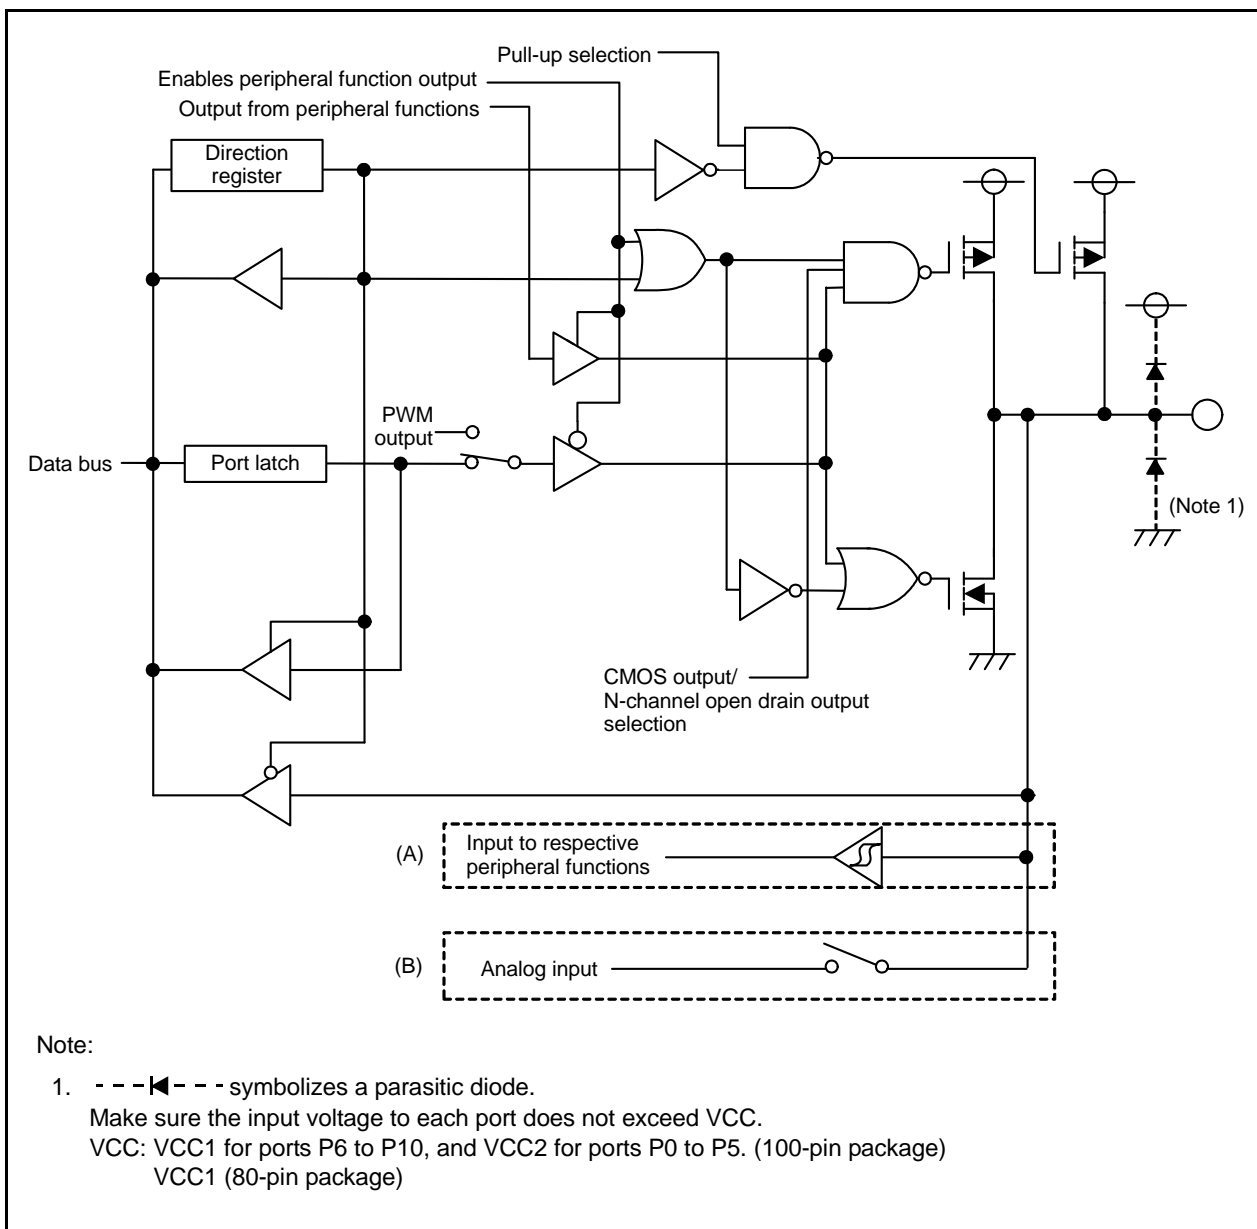

Figure 13.7 I/O Ports (CMOS Output/N-channel Open Drain Output Selection, PWM)
Peripheral function input (A) in Figure 13.7	Analog input (B) in Figure 13.7